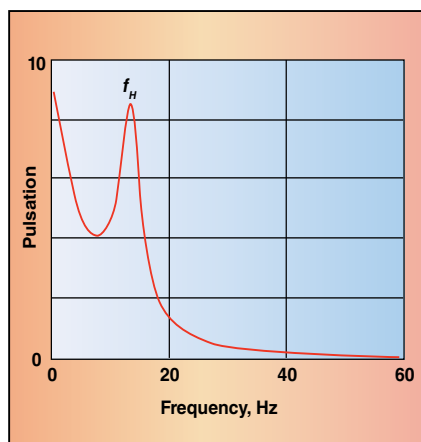

FIGURE 11. A volume-choke-volume dampener configuration results in a frequency response (f_H) where pulsations are amplified, and then drop off rapidly
Two-volume dampeners are an extension of the single-volume variety, and there are significant differences in these two types of dampeners, with regard to low-frequency characteristics. The first bottle, which is directly connected to the compressor cylinder, is called the surge volume and the second bottle is the filter volume. Recall that a choke tube separates the two volume chambers in a double-volume dampener, hence the volume-choke-volume label. The single most important characteristic of a dampener's volume-choke-volume configuration is its acoustic natural frequency — or Helmholtz frequency. This is a value at which a frequency pulsation is amplified, followed by a rapid drop-off in pulsation levels (Figure 11). Equations (2) and (3) are used to calculate